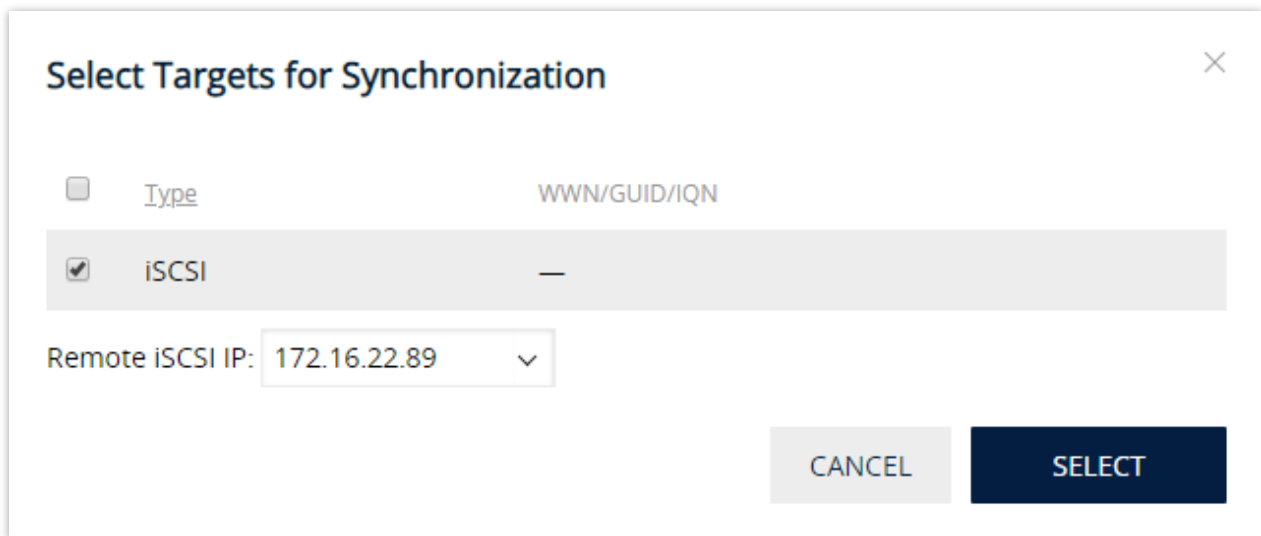

Figure 39. Targets for synchronization window
4. Click **Target Synchronization** to open a setup window (Figure 39).